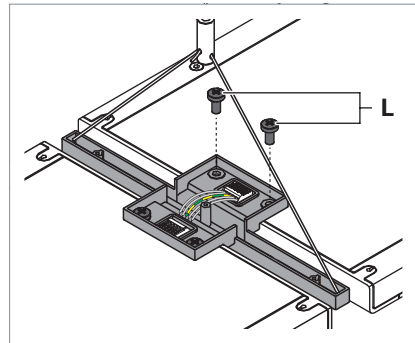

Fig. 15: Connecting luminaires.
- ▶ Connect the connecting element of the already mounted luminaire and the luminaire to be daisy chained using the delivered screws **L**, see Fig. 15.